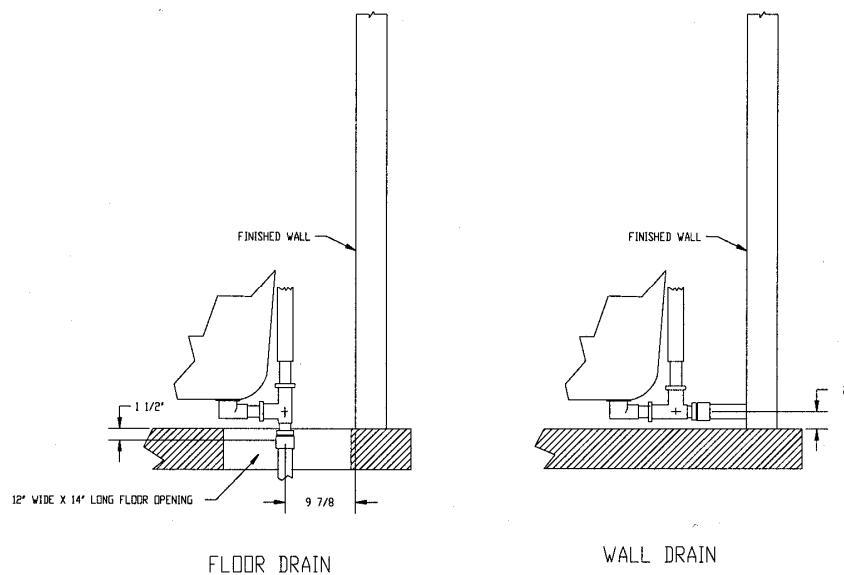

Fig. 6
17. The drain pipe is 2" nominal PVC pipe size (2 3/8" actual outside diameter). It can be connected from the horizontal position or pointed down (vertical position) if connecting to a floor drain pipe. **See fig. 6**